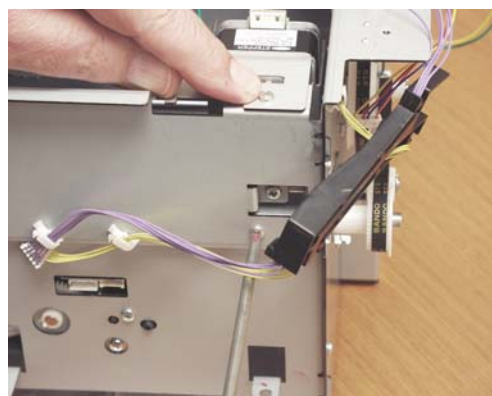

Figure 5-25 Let Wire Loom Hang; Unscrew Two Motor Mounting Screws
5. Unscrew motor mounting bracket (two screws). See Figure 5-25.